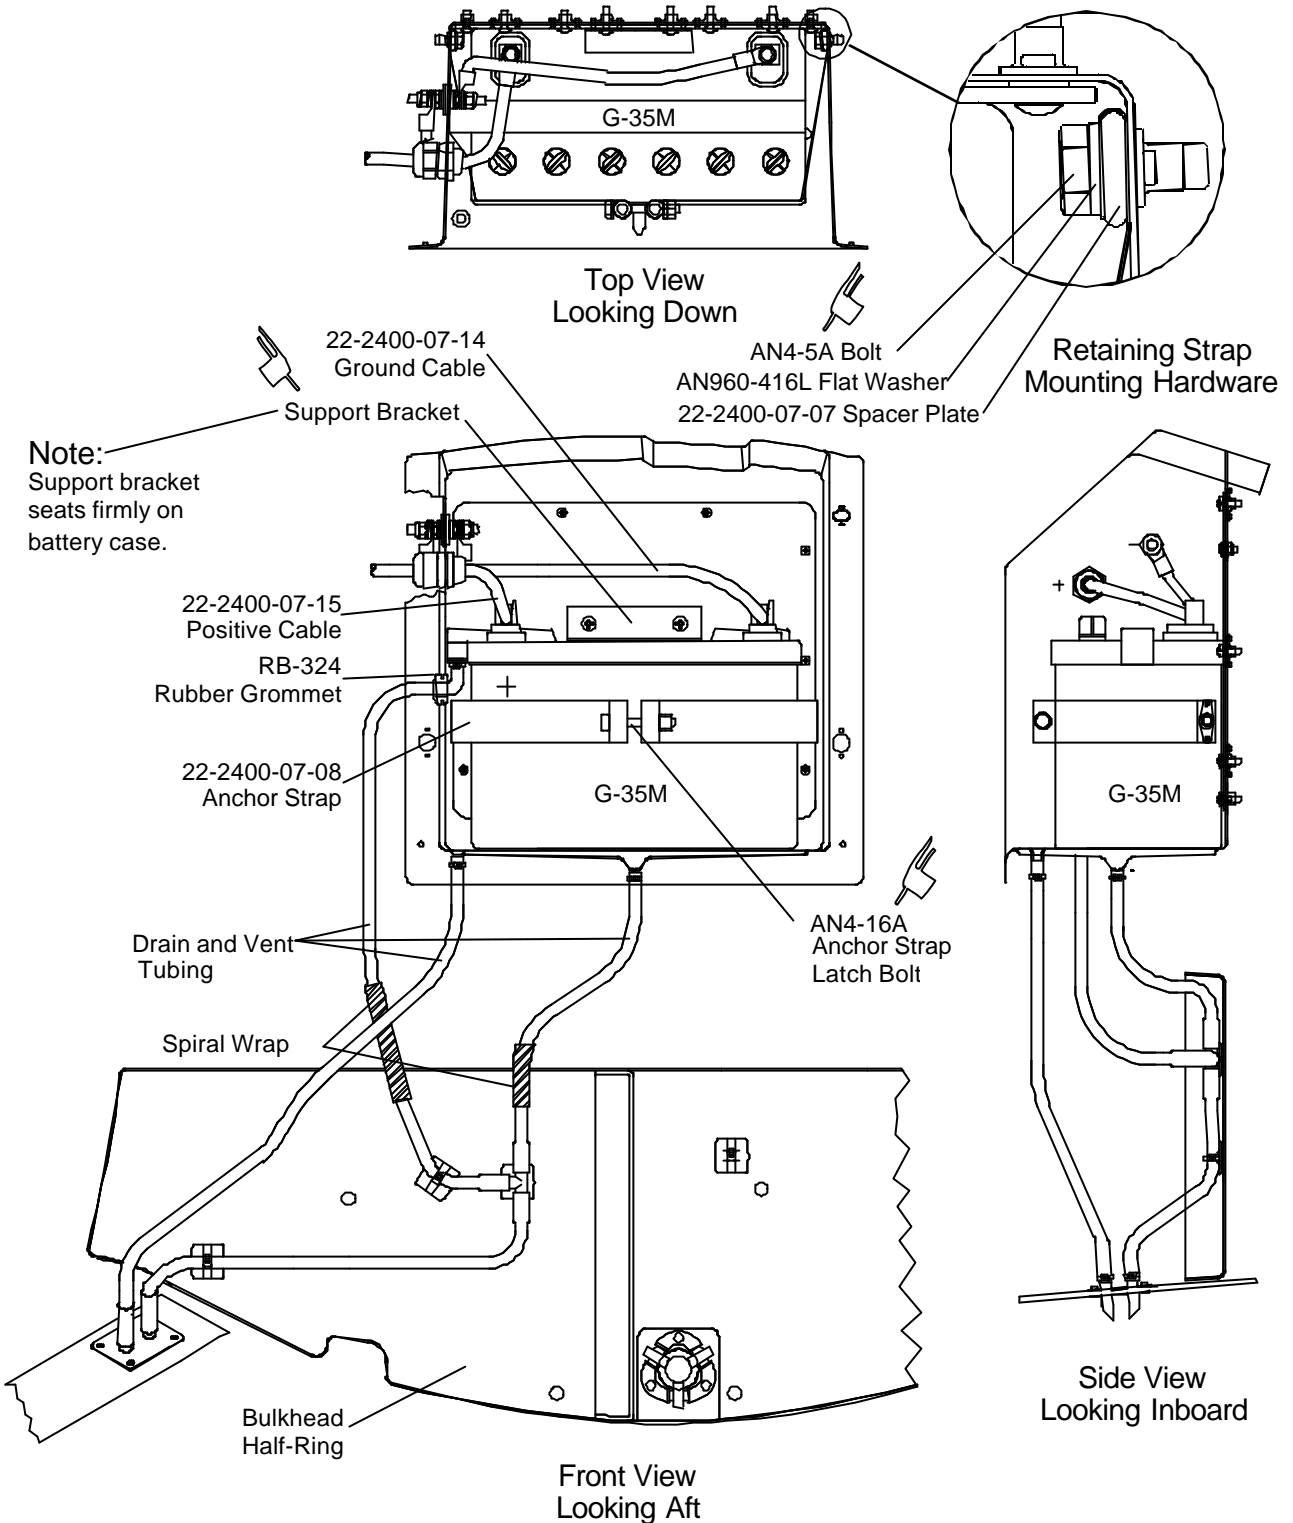

Figure 1
- 10.4** Remove the rubber plug from right side of battery housing and install the new rubber grommet as in Figure 1.
- 10.5** Reroute the vent and drain tubing as in Figure 1.
- 10.6** Install the new anchor strap mounting hardware as in Figure 1.
- 10.9** Install the new battery (reference DA201-C1, chpt. 24-31, sec. 3B). Discard old anchor strap latch bolt and install new bolt P/N AN4-16A as in Figure 1.
- 10.10** Install the support bracket. Elongation of the housing holes may be necessary for proper fit on the battery (see Note in Figure 1).